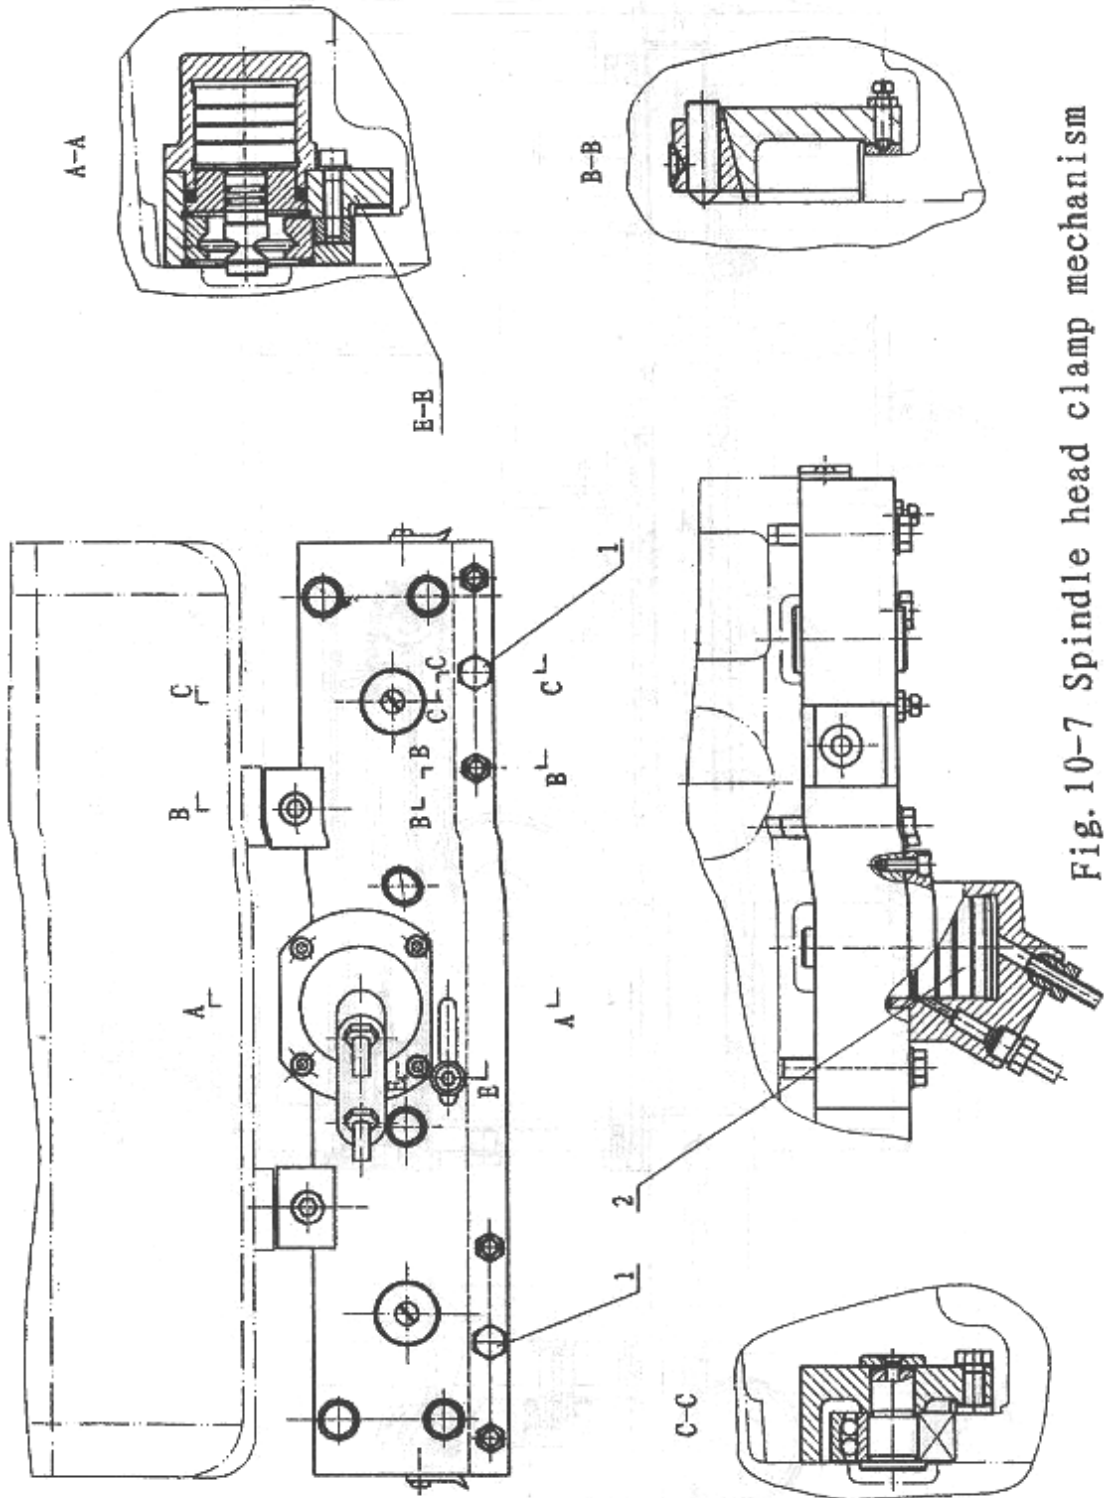

Fig. 10-7 Spindle head clamp mechanism
(1) adjustment of clamping strength of spindle head (fig.10-7)